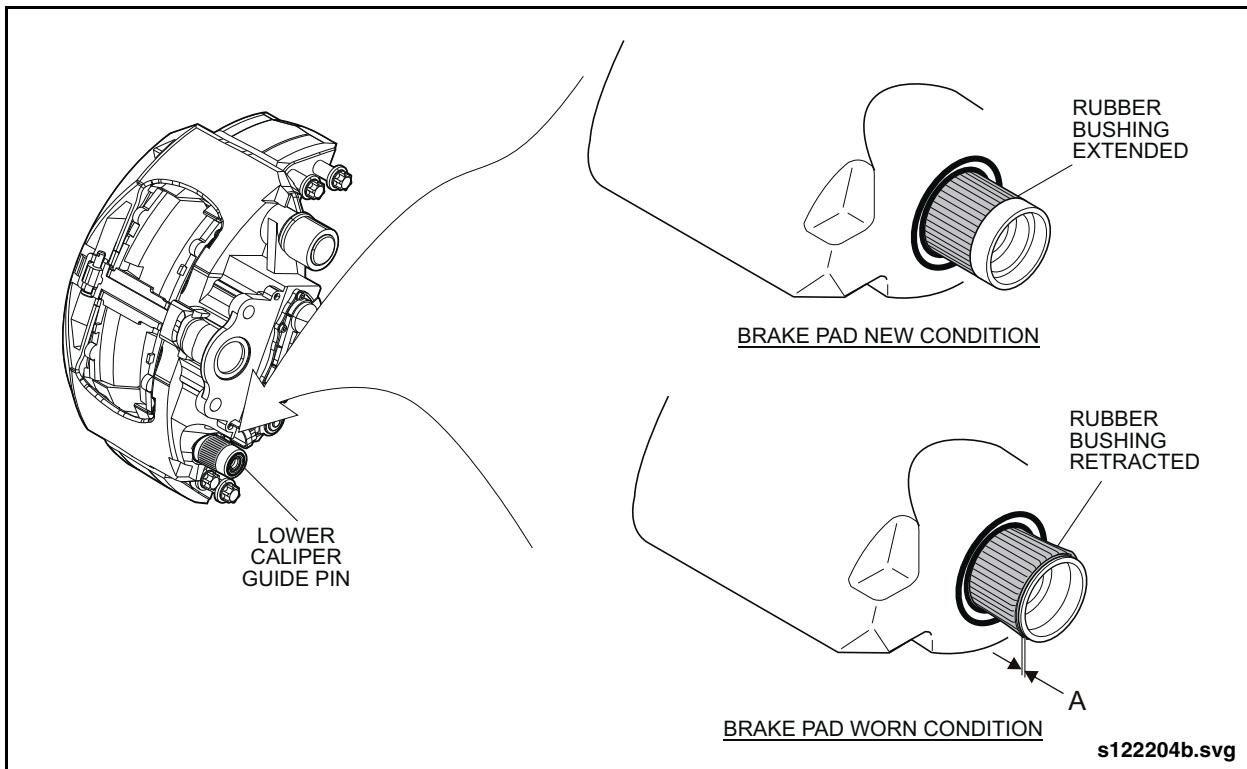

Fig. 2-112: Brake Pad Wear Inspection
*See "Fig. 2-112: Brake Pad Wear Inspection" on page 99.*